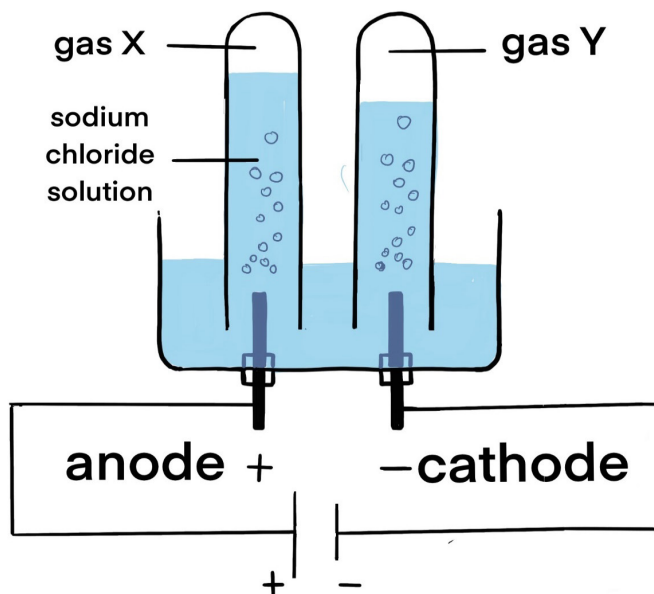

Figure 13.2: Electrolysis of concentrated sodium chloride solution
2. Fill the two small test tubes with concentrated sodium chloride solution and invert them over the electrodes as presented in figure 13.2.